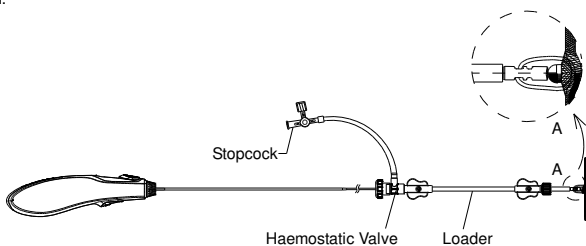
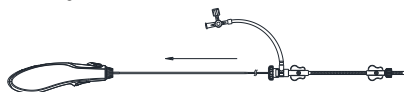

Figure 6. Illustration of CeraFlex™ PFO Occluder System
Figure 7. Illustration of loading the device into a loader
- Carefully check the connection between the occluder and the delivery cable (Refer to Figure 6). Immerse the device and loader in saline solution and pull the device into the loader with a quick jerking motion (Refer to Figure 7).